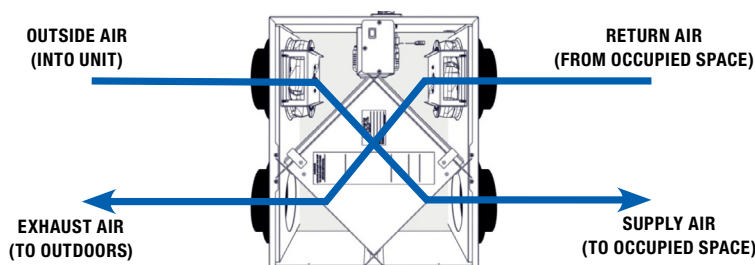

FIGURE 1.1.0 AIRSTREAM ILLUSTRATION, CONFIGURATION A
- **Fresh Supply Air (SA):** This duct will deliver fresh, conditioned air from the ERV to a desired location in the residence. This duct run may end in a floor or wall grate with an area of at least 28 square inches. Alternatively, the supply air duct may be connected directly into the return air duct or the supply air duct for the main heating and cooling system. When connecting to the main return air duct, it must be at least 3' from the return plenum to minimize suction from the furnace blower.
- **Indoor Return Air (RA):** This duct will collect indoor air from return grilles and run it through the ERV for energy recovery before being exhausted to the outdoors.
- **Outdoor Exhaust Air (EA):** This duct exhausts stale indoor air to the outdoors after being run through the energy recovery core. This duct will normally end at an exhaust cap located on an exterior wall of a residence.
- **Airstreams may be swapped during installation.** This is an acceptable installation that does not effect unit performance or warranty, see Figure 2.2.0. Mirrored units may require unit to be rotated 180 degrees during installation and airflow configuration changed during setup, see Figure 2.2.0. If paired with TC1+, airstream configuration can be selected digitally to match configuration A or B, refer to the sticker on the ERV. See Figure 1.1.0 and 1.1.1 for more information.